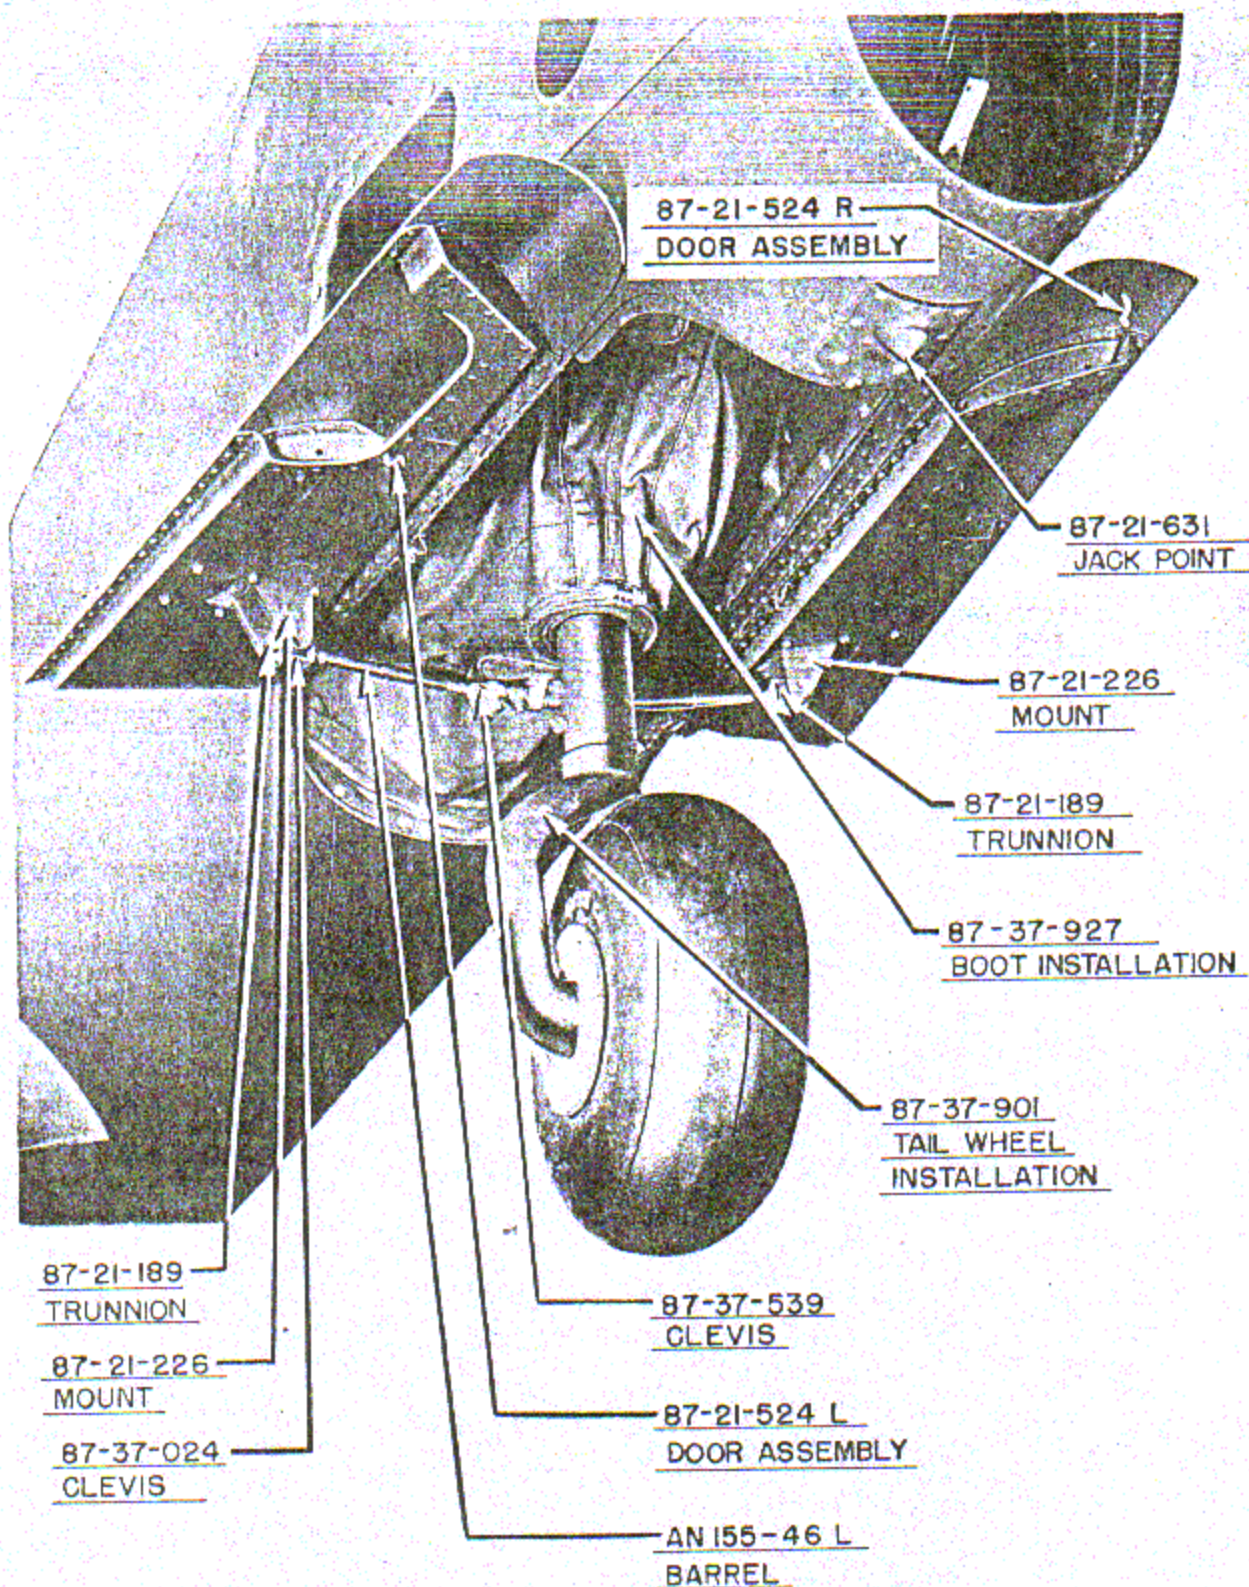

Fig. 46 - Tail wheel installed.
a. General. - (1) Steering Cables: The cables connecting the tail wheel steering horn to the rudder pedals are equipped with springs to reduce taxiing shocks in the rudder pedal control system.
(2) Retracting Mechanism: The tail wheel retracting mechanism consists of an hydraulic retracting cylinder, (87-37-905), mounted on fuselage frames #13 and #14. See Figures 46 & 47. The piston rod extends forward from the cylinder and carries a lug to which the upper end of the oleo shock absorber strut is attached by a bolt. The piston rod extends forward of Sta. #11 and is supported by braces from Sta. #11 and #12. During retraction the piston and rod are forced forward carrying the upper oleo support with it. The oleo strut (87-37-510) is attached by a  $3/8$ " diameter bolt directly to the lug on the retracting piston rod. For general instructions covering air-oil shock absorber struts see T.O. No. 03-25E-1. For information on the operation of the retracting cylinder and the hydraulically operated positive type mechanical